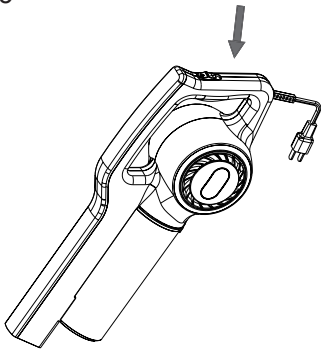

Fig.6
- ◆ Disconnect the dust tank from the appliance (Fig.6).